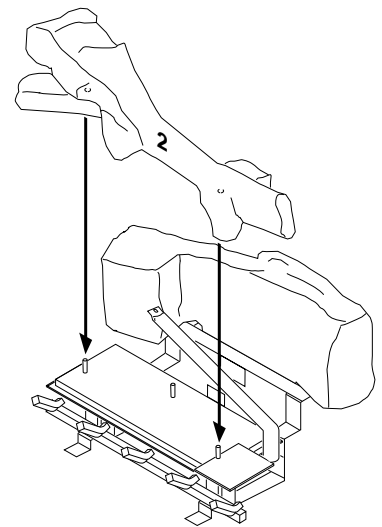

Figure 48 - Installing Log Assembly No. 2
2. Place log #2 (two log assembly) onto pins on left and right of the front burner (see Figure 48). The middle pin is not used.